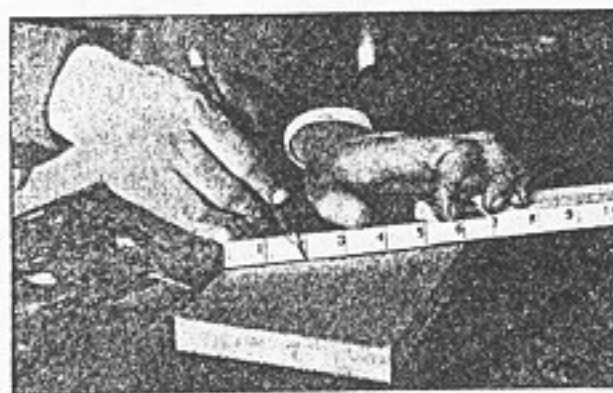

Fig. 38. Dividing a board by placing a rule diagonally. The divisions are marked on the even inch marks.
4. When a board is to be divided lengthwise into a given number of parts, the rule is placed diagonally across the board, so that the divisions can be marked off from whole numbers (Fig. 38).